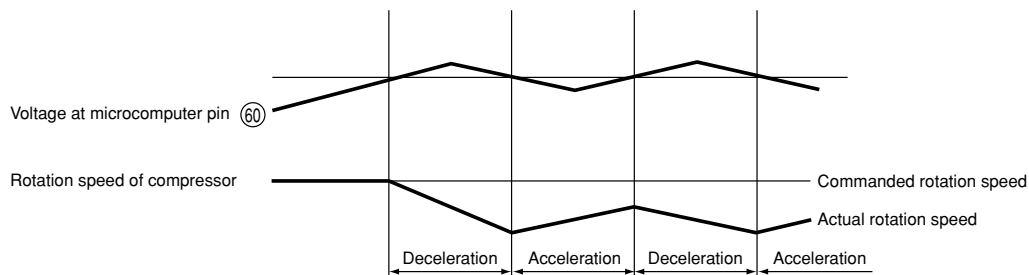

Fig. 8-7
- Fig. 8-7 shows the rotation speed control. When the voltage at pin ⑥⑩ of the microcomputer exceeds the set value, the microcomputer decreases the rotation speed of the compressor and reduces the load regardless of the rotation speed commanded by the indoor microcomputer.